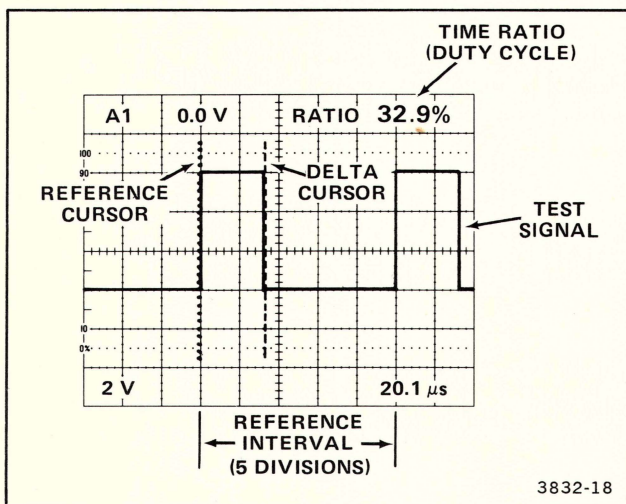

Figure 6-6. Time ratios (duty cycles).
8. Align the Reference cursor to the left edge of the test interval and the Delta cursor to the right edge of the test interval (see Figure 6-6).